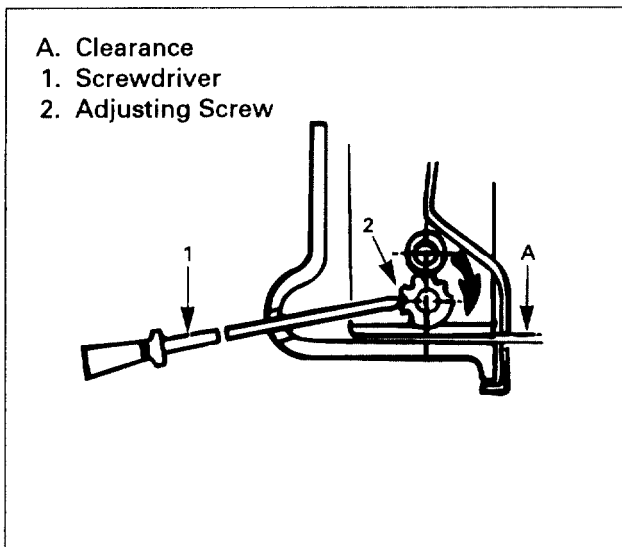

Figure 4 – Brake Shoe Adjustment and Clearance
- Gap at the middle of the shoe lining figure 4.